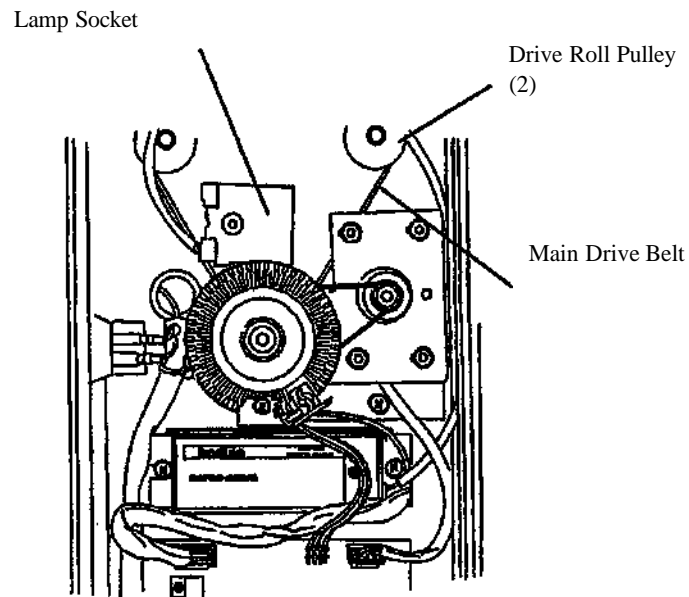

Figure 2. Main Drive Belt and Lamp Socket
3. (Figure 2): Loosen the 2 screws that hold the Motor Assembly.